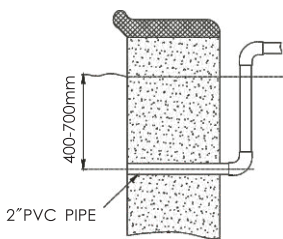

Figure 2
- underwater lights installed and the water surface distance between 40cm-70cm. (Figure 2)